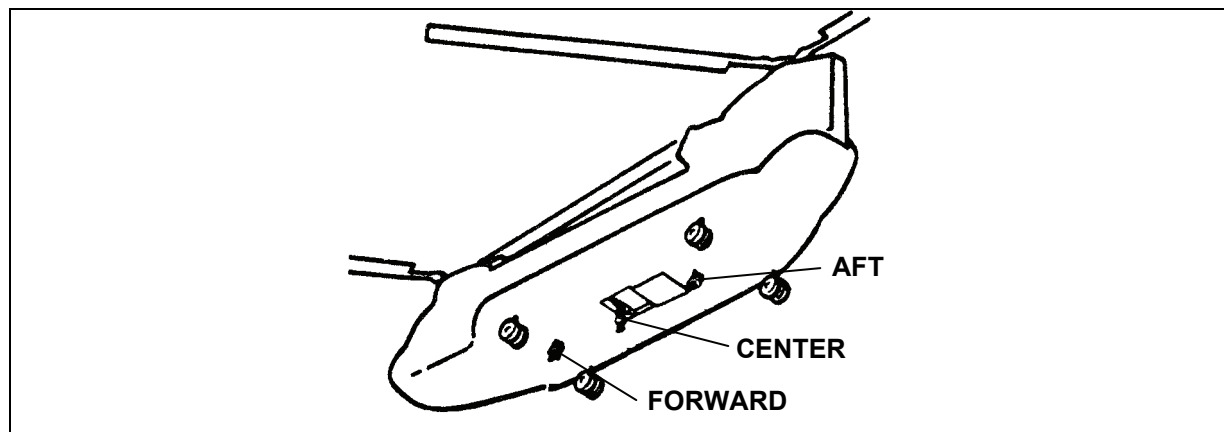

Figure 2-13. CH-47 Cargo Hook Locations
- The H-47's center cargo hook and two additional cargo hooks (Figure 2-13) increase sling load capacity and stability. The two additional cargo hooks, designated as the forward and aft cargo hooks, are bolted to the bottom of the aircraft about 6 1/2 feet fore and aft of the center (main) cargo hook.